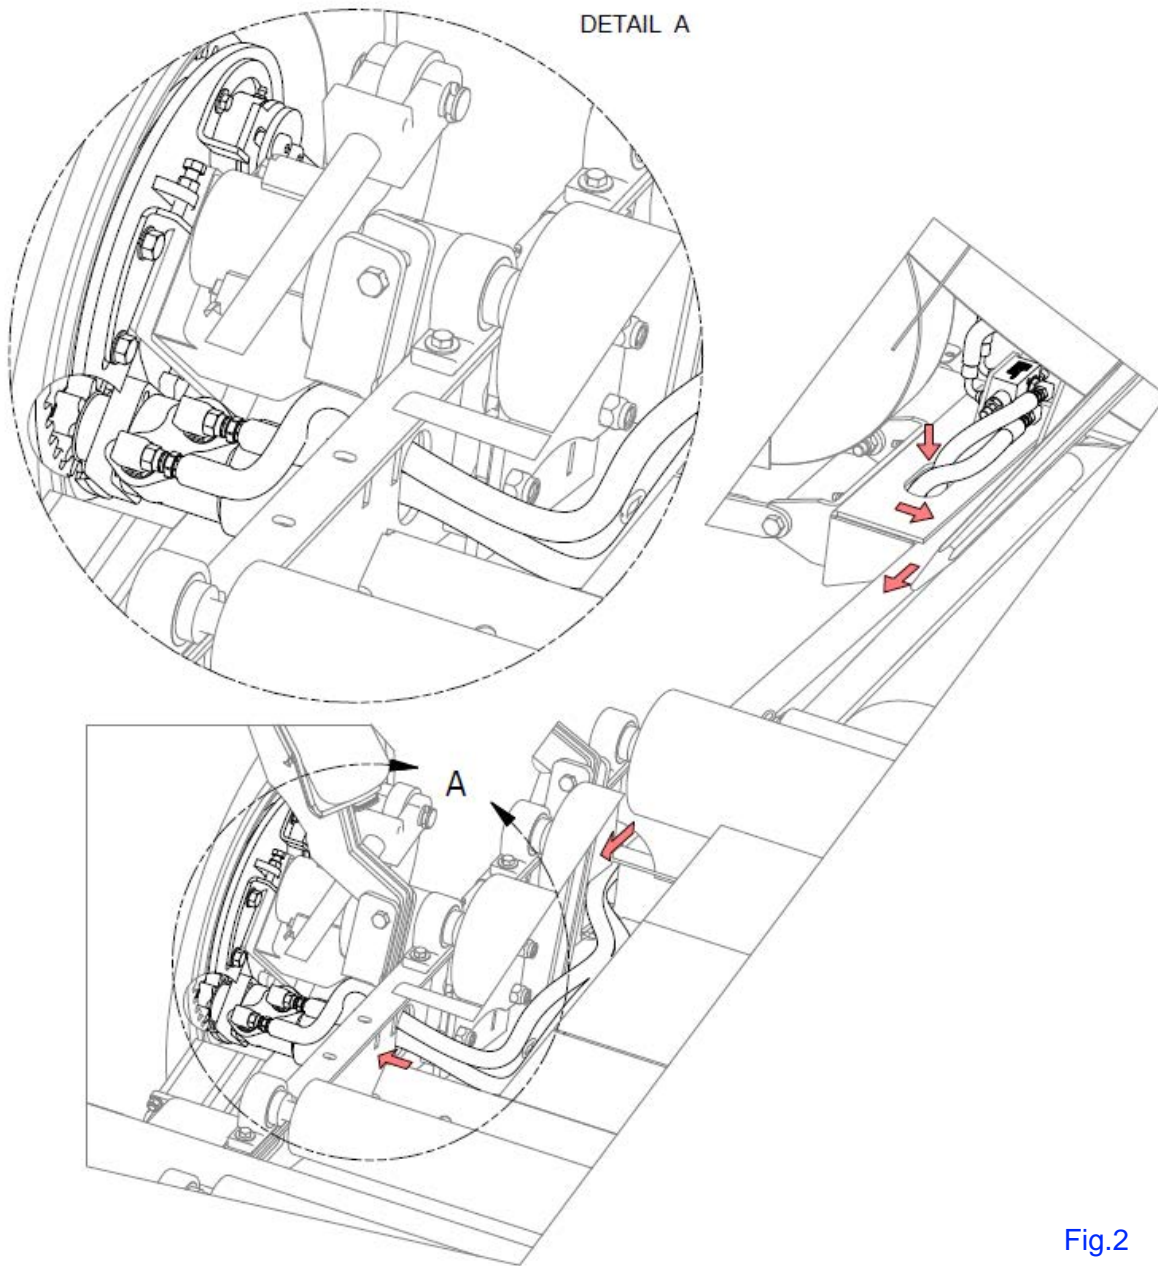

Fig.2
2. Remove existing brake pad from parking brake bracket. Reuse bolts to fasten supplied hydraulic motor as shown in Fig.2.
4. Route two hoses marked "26919" from crossover relief valve through hoop wheel mount and side frame tube to middle of roller bed, then through the left roller bed mount plate to the hydraulic motor. Make sure 90° hose ends are towards crossover relief valve. See arrows in Fig.2.